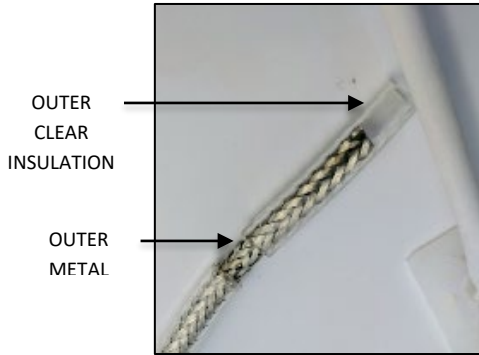
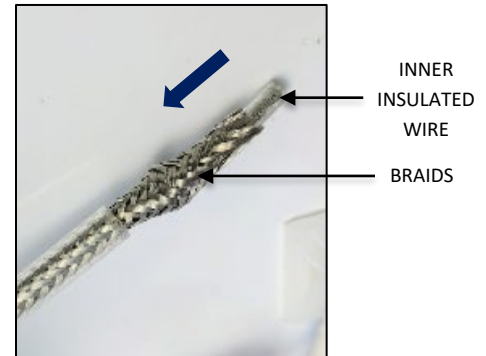

FIG. 15
FIG. 16
- Strip off 1.00" of outer clear insulation exposing the outer metal braiding as shown in FIG. 15 below. **Be careful not to cut or damage the outer metal braiding.** Gently push braiding down to loosen the individual braids exposing the inner insulated wire as shown in FIG. 16 below.